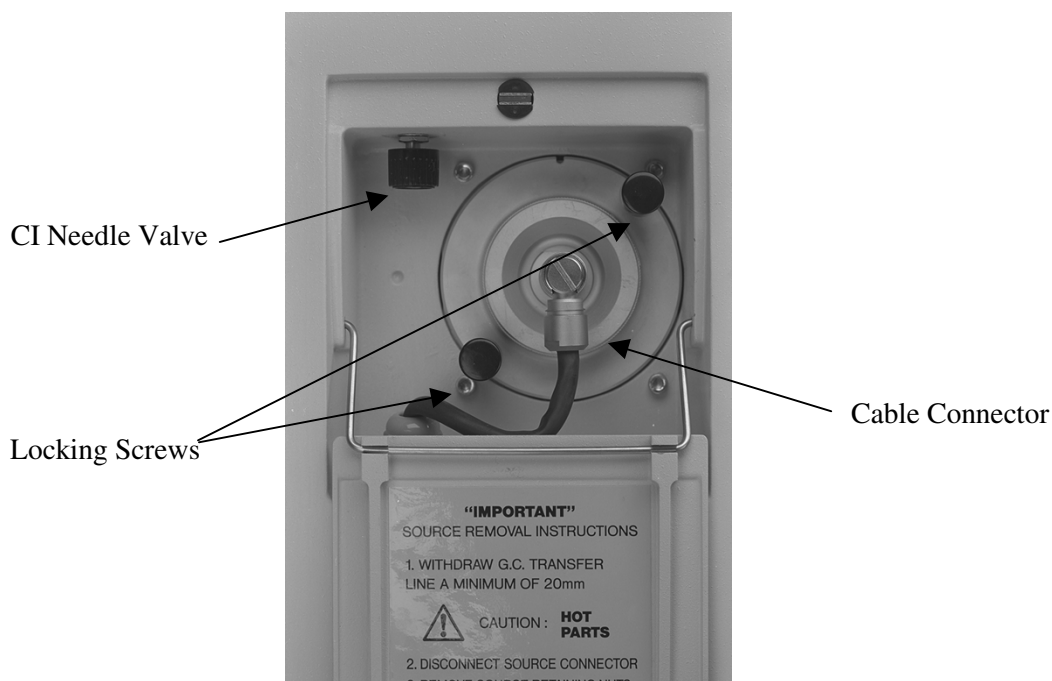

Figure 3-1. Source faceplate
- a. Disconnect the cable connector by gripping firmly and pulling, and then loosen the two locking screws holding it in place (see Figure 3-1).
- b. Slowly open the CI needle valve in the source flap, stopping whenever the TRACE MS's orange pump light comes on. See Figure 3-1, which shows the position of the valve.